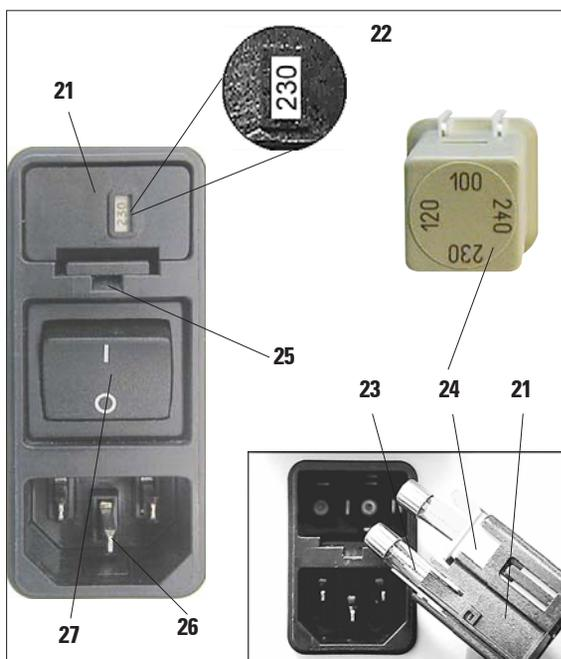

Fig. 10
The voltage selector is located above the main power switch, on the left-rear side of the instrument (Fig. 10). The voltage setting is displayed in the viewing window (22).
- Insert a small screwdriver into the cutout (25) and carefully pry out the insert.
- Remove the voltage selector housing (21) together with the fuses (23). Remove the voltage selector block (24) (white) and insert it again such that the correct local voltage is displayed in the viewing window (22).